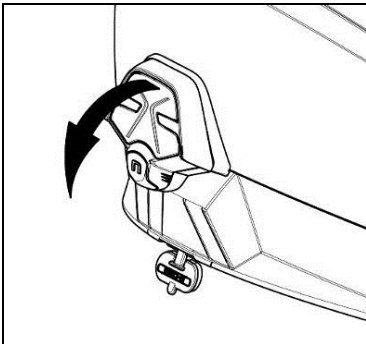

Fig. 18
- Remove the ESS light from the shell (Fig. 18).